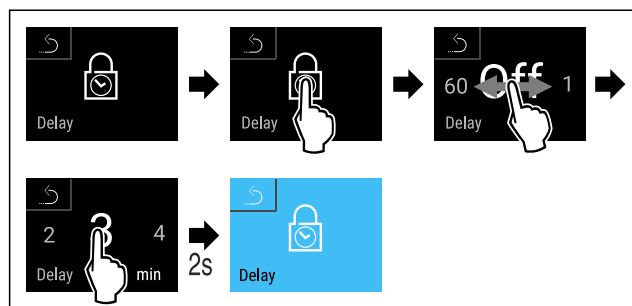

Fig. 85 The following values can be set: Off (no waiting time) up to 60 minutes; in 1-minute increments
- ▶ Complete steps (see Fig. 85).